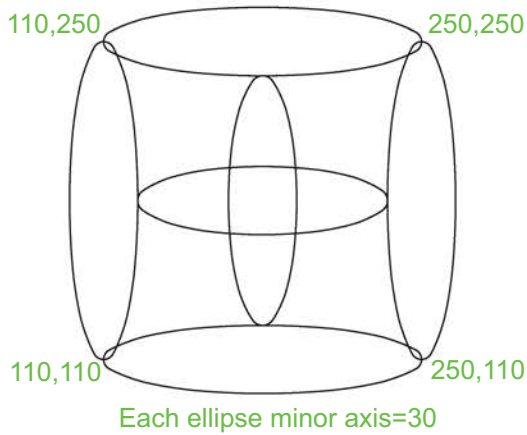

Fig. 4.27 Exercise 5
5. With the **Ellipse** tool, construct the drawing given in Fig. 4.27.